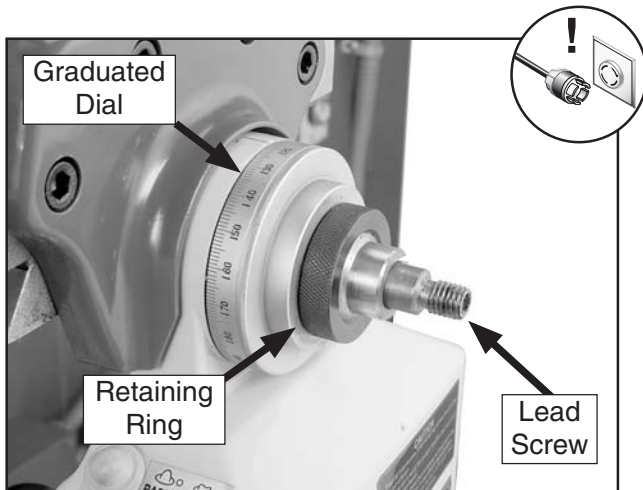

Figure 75. Power feed retaining ring and graduated dial.
3. Unthread and remove the knurled retaining ring and graduated dial from the end of the lead screw (see **Figure 75**).